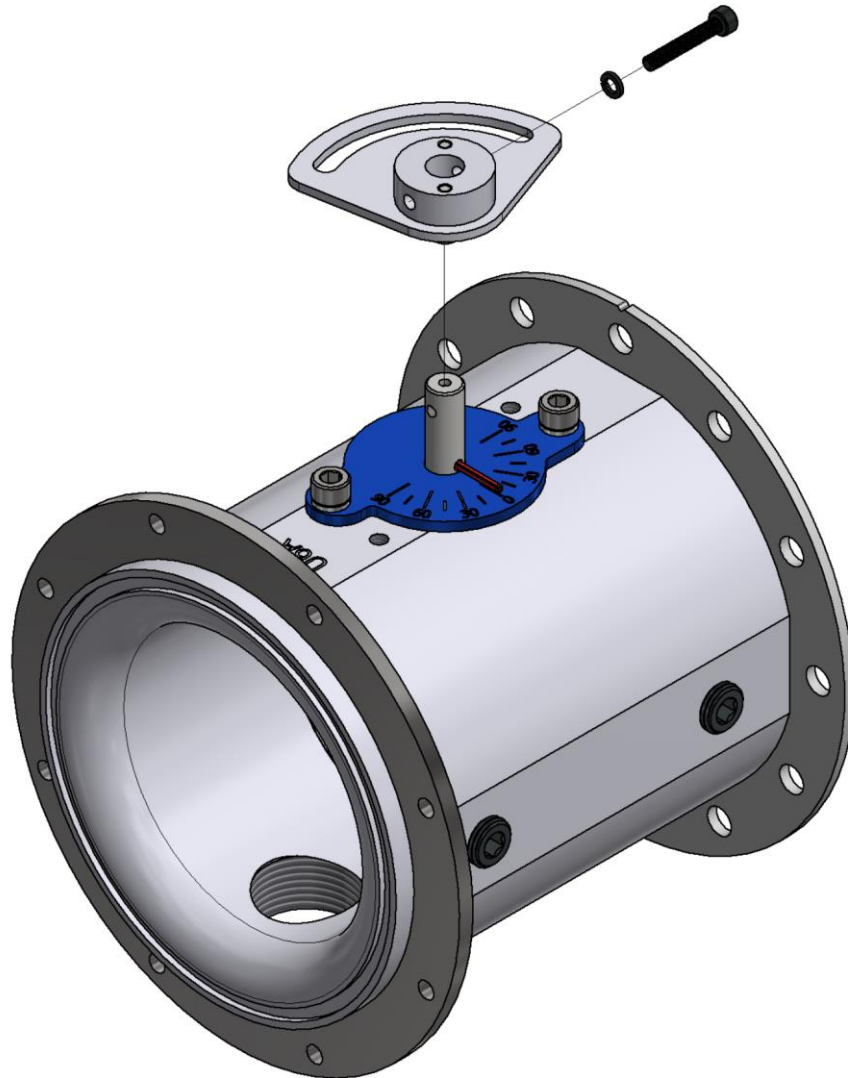

Figure 5: Shaft Adapter Assembly Installation
4. Slide the shaft adapter assembly over the PBA... valve shaft as shown in Figure 5, lining up the hole in the shaft adapter assembly with the threaded hole in the valve shaft. Using a 3mm hex key, the M4 split lock washer, and the M4 x 25mm socket cap screw, fasten the shaft adapter assembly to the PBA... valve manifold.